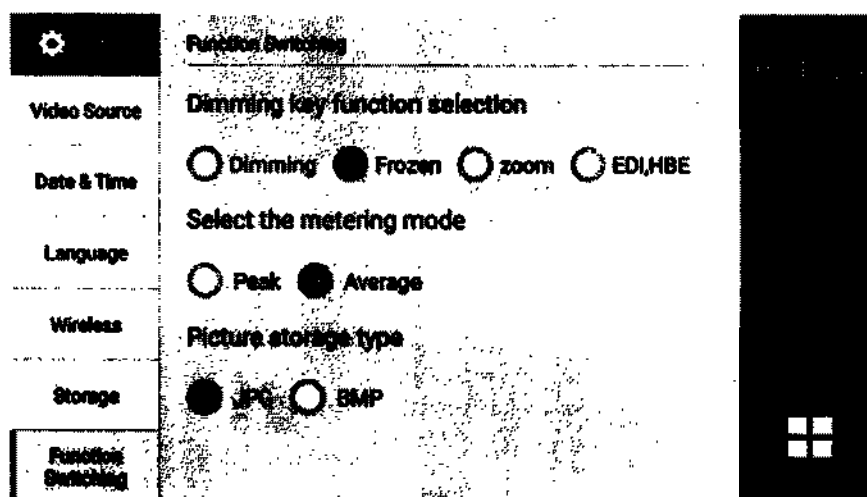

Fig3.13
3.9.1 Under the main menu, press the "function switch" button. Enter the function switch setting interface, and select "freeze" below (as shown in Fig 3.13). Then return to the preview interface.